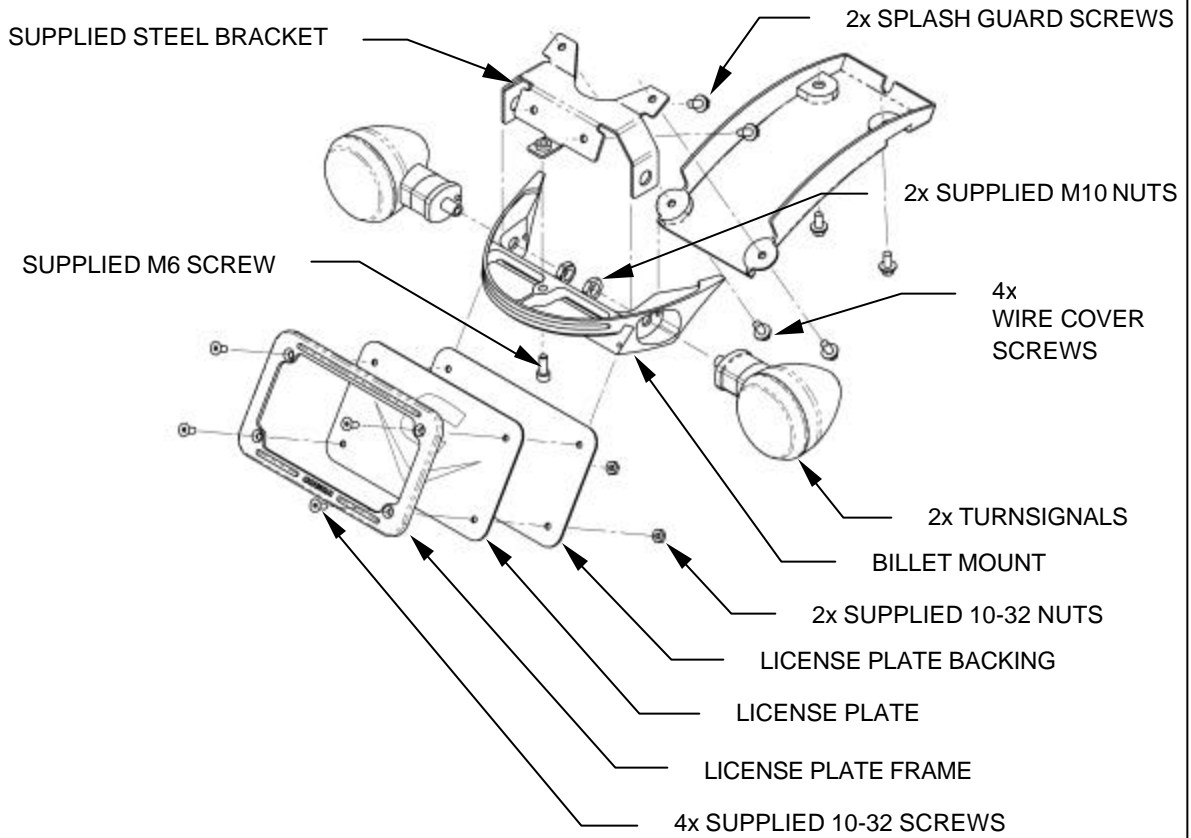

FIGURE 1
4. Align the holes in the supplied bracket with the holes in the brackets where the splash guard was attached and finger tighten the two stock M6 bolts, removed in step 4, into the bracket as shown in figure 1.
5. Align the billet mount with the bracket installed in step 5 (see figure 1). Insert a turn signal into each pocketed hole of the mount so the stud from the turn signal goes thru the mount and bracket. Slide a supplied M10 nut over each turn signal wire and finger tighten the nut onto the stud.
7. Locate the slotted hole on the bottom of the mount and insert the supplied M6 screw thru the mount and finger tighten into the bracket. (See figure 1)
11. Place your license plate between the supplied frame and backing plate and install two 10-32 screws thru the bottom holes in the frame and install a 10-32 nut on the backside as shown in figure 1.
12. Slide the frame, license plate and backing plate into the notch in the billet mount and align the hole in the frame with the mount (see fig 1). Install two 10-32 screws thru top holes in the frame and tighten.